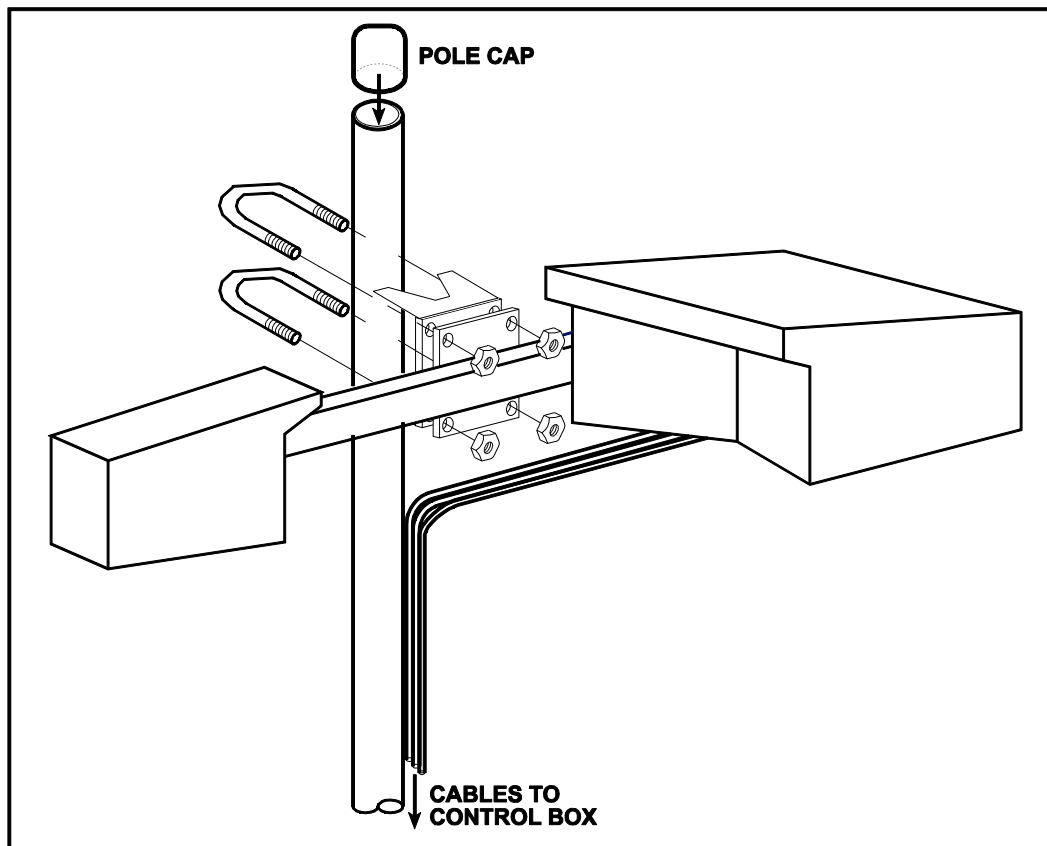

Figure 2. Mounting Present Weather Sensor Head
1. Attach the sensor head using the two U-bolts to connect the mounting plate on the sensor head and the mounting bracket with the 1/4-20 hex locking nuts as shown in Figure 2. To mount the head to a vertical mast or tower section, install the U-bolts and mounting bracket horizontally. To mount to a horizontal tower section or boom arm, install them vertically using the same holes.